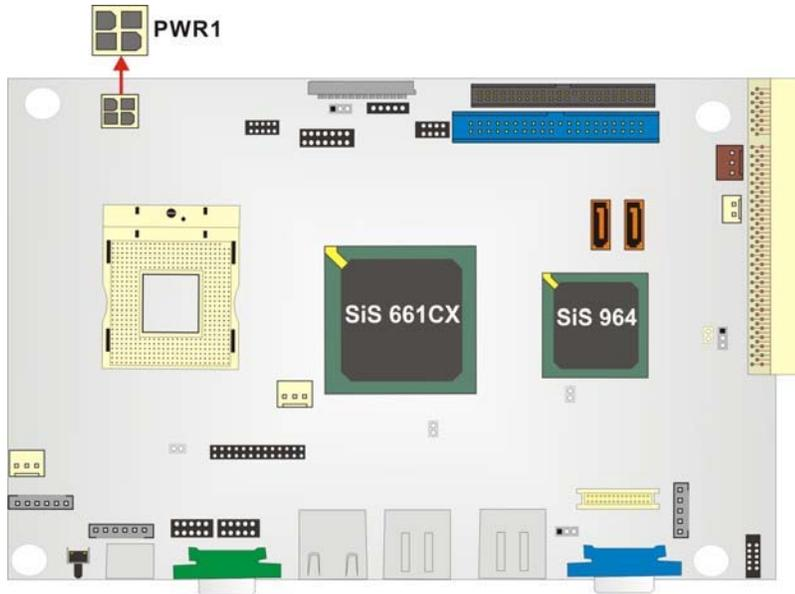

Figure 3-2: 12V Power Connector Location
- CN Location:** See Figure 3-2